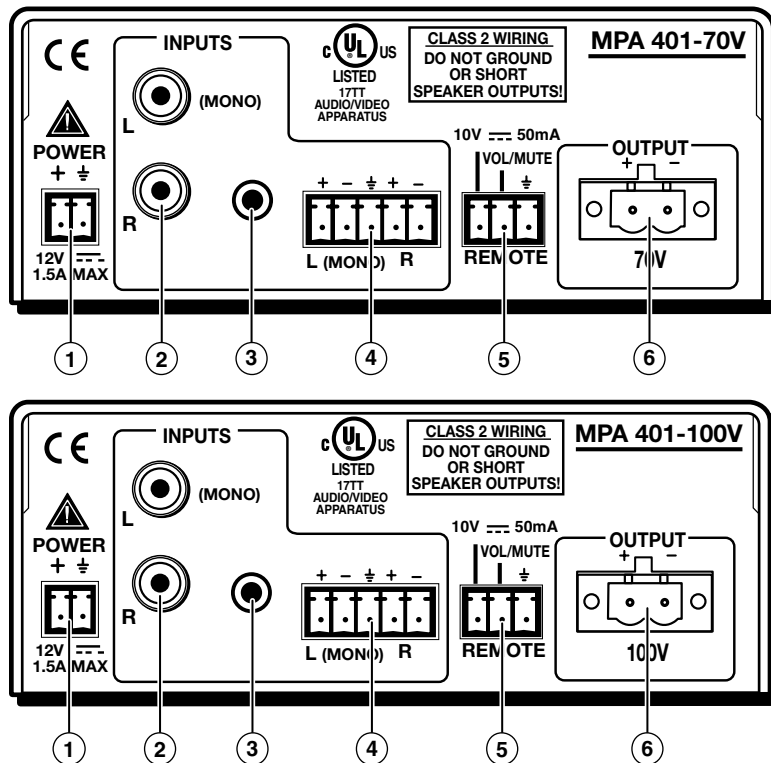

Figure 2. MPA 401-70V and MPA 401-100V Rear Panel Features
Use the rear panel connections (see figure at right) to connect audio inputs to the amplifier. Wire the connectors as shown below. The balloon numbers refer to figure 2.
- ⑤ **Remote input connector (see figure 2)** — This 3-pole captive screw connector allows the option of using a wall-mounted audio controller or MediaLink product to control volume and mute levels remotely.
- ⑥ **Speaker connection (see figure 2)** — Connect the speakers to this socket using the 2-pole, 5 mm screw-lock captive screw connector (shown at right).